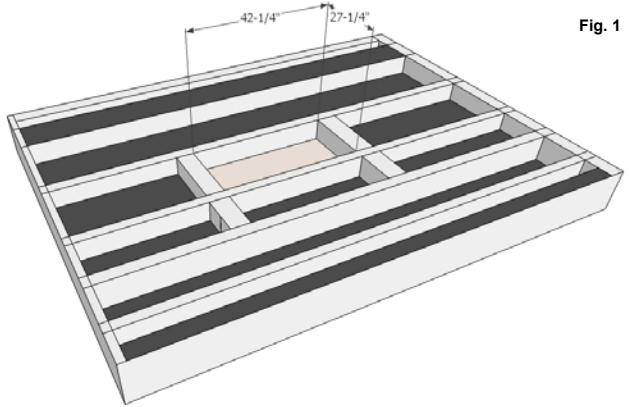

Fig. 1
1. PREPARE THE CEILING OPENING. (Figure 1) Opening: 42-1/4" W x 27-1/4" D.